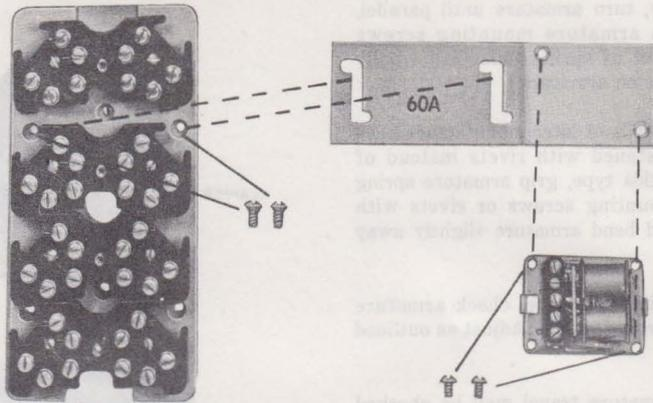

Fig. 20—60A Bracket
1. The mounting screws used to secure the 168-type backboard also hold the 60A bracket (Fig. 20).